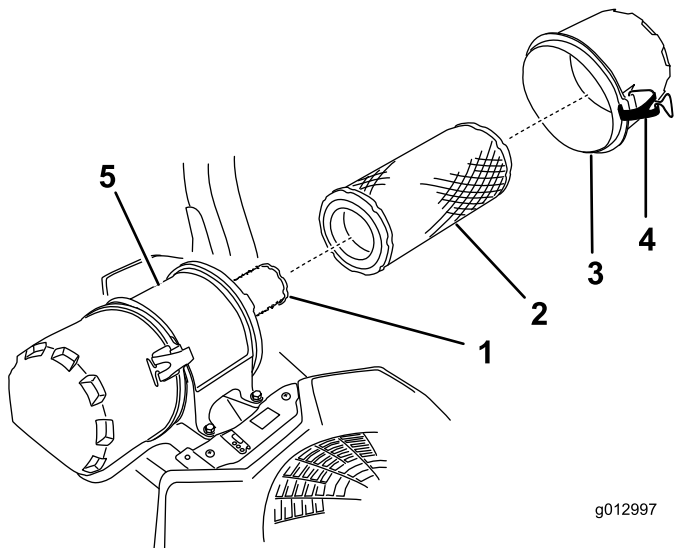

Figure 32
6. Release the latches on the air cleaner and pull the air-cleaner cover off the air-cleaner body (Figure 32).
8. Gently slide the outer filter out of the air-cleaner body (Figure 32).
- If you are replacing the inner filter, carefully slide it into the filter body (Figure 32).
- Carefully slide the outer filter over the safety filter (Figure 32).